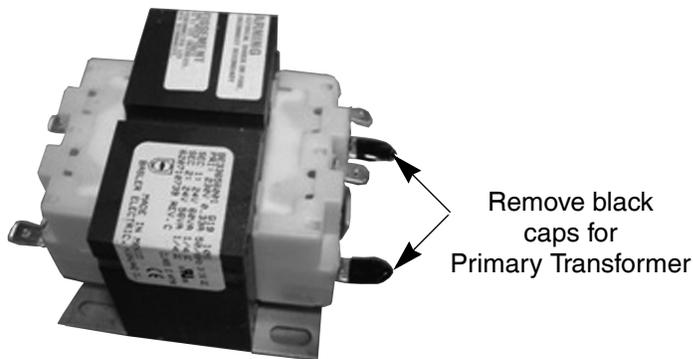

Figure 4. Protective Caps
- Remove the six (6) wire leads from the transformer:
- Remove the transformer from the electrical box, by removing the four (4) 8-32 screws.
- Remove the two (2) black caps on the transformer, as shown in Figure 4.